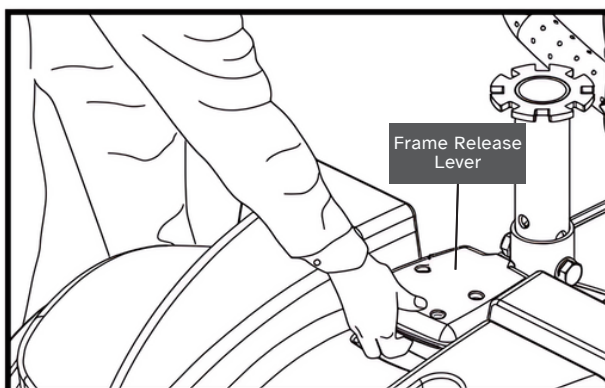

Figure 15. Frame Release Lever
3. Hold and raise the frame release lever (refer to Figure 15)